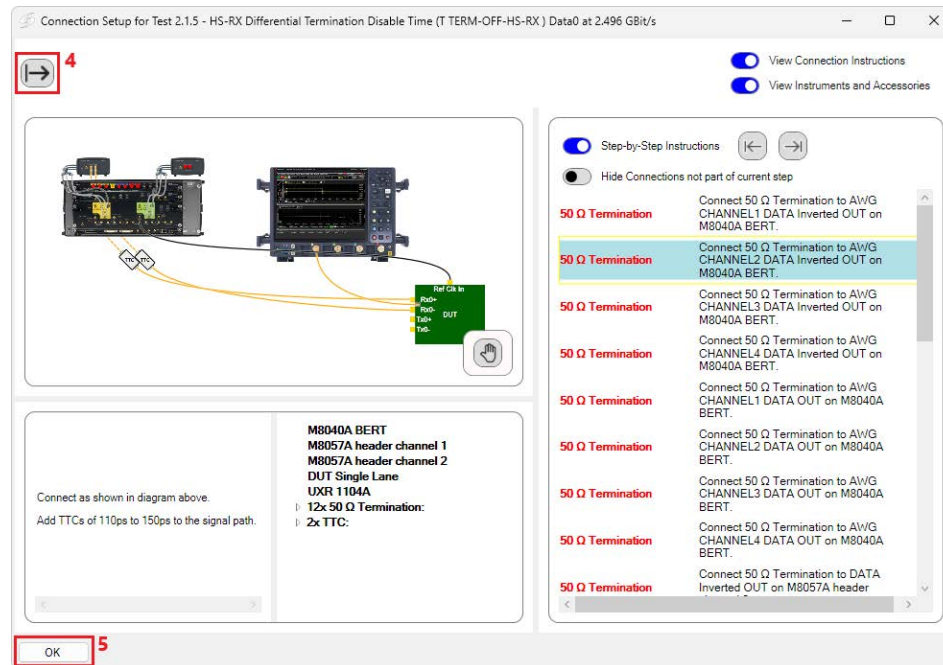

Figure 3-6 Connection diagram window with step-by-step instructions and list of instruments
- 2 **Connection Instructions:** Toggle to 'on' to view the connection instructions and further information. It is possible to open step-by-step instructions, where the connection currently being made is highlighted (Figure 3-6).
- 3 **Instruments and Accessories:** Toggle to 'on' to view the list of required instruments and accessories (Figure 3-6).